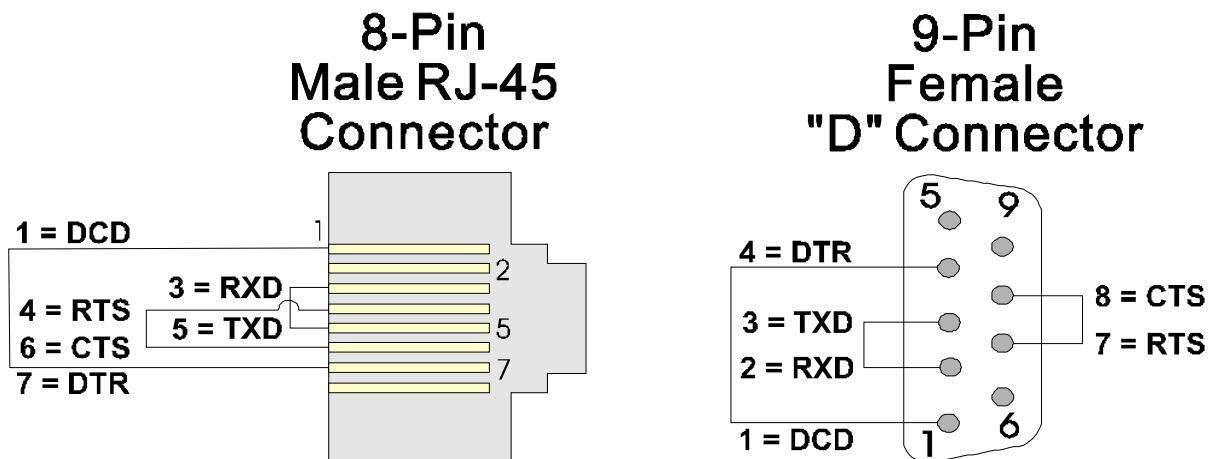

Figure 3-10 - RS-232 Loop-back Plugs
If testing the Communications Port in question at the **CWREDIO** unit use a 9-pin female D-Type loop-back plug (see Fig. 3-10).
Ports 1, 2 & 4 set-up for RS-232 use a 9-pin female D-type loop-back plug (see Fig. 3-10).
Port 3 set-up for RS-232 use an 8-pin male RJ-45 loop-back plug (see Fig. 3-10).
1. Connect an external loop-back plug to the CPU Port to be tested, i.e., J2 of CPU for Port 1, J3 of CPU for Port 2, J2 of SCB for Port 3, or J3 of SCB for Port 4 (see Figures 3-10 through 3-12).